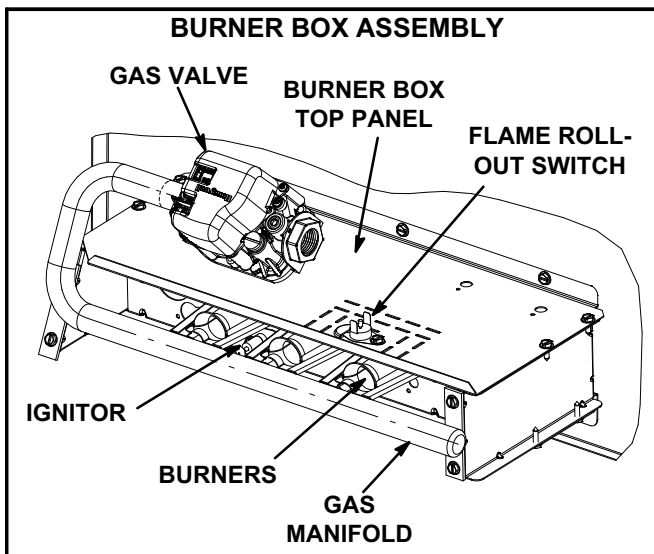

FIGURE 12
- 10- Replace burners and screws securing burner. See figure 12.